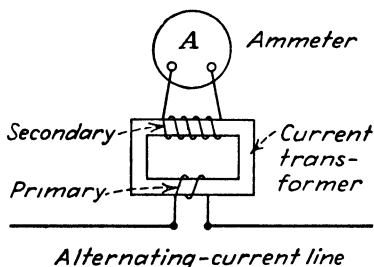

FIG. 5-32 Ammeter and current transformer in alternating-current line.
**Principle of Operation.** A current transformer is similar in its operation to the voltage transformer described in Sec. 1. It, however, does not have its primary winding connected across the line but, instead, has it connected in series in one side of the line, as shown in Fig. 5-32. Standard practice today is to design all current transformers so that 5 amp will be flowing in the secondary when full-load current flows in the primary. Consequently, ammeters generally read 5 amp when full-load current is flowing in the line in which the current transformer is con-